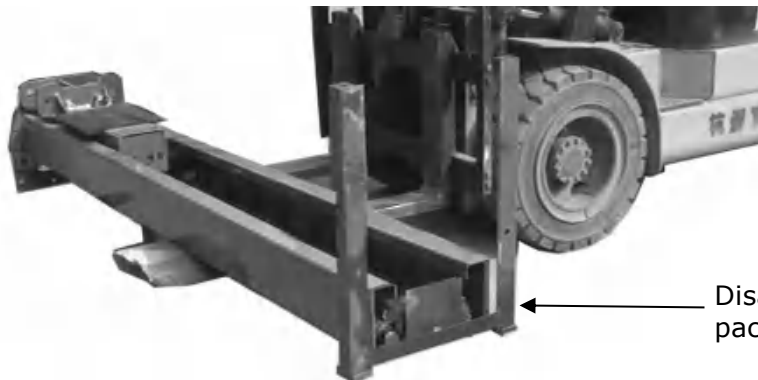

Fig. 11
5. Lift the lower column with a fork lift or hoist, take away the package stand, then take off the lower outer column, take out the parts in the inner column (**See Fig. 11**).